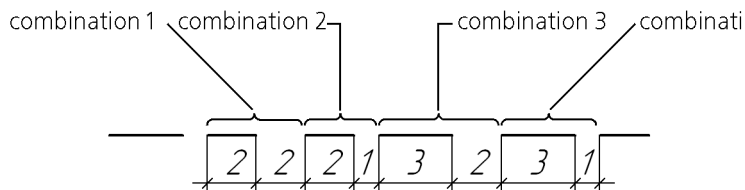

Fig. 8.9. Dash-and-gap combinations in dashed lines of Thermoplast hatch
Groups 3–6 contain dashed lines. All of them are formed of the same dash-and-gap combinations. These combinations and dash-and-line lengths are shown in Fig. 8.9.
- 9.7. The line consists of dash-and-gap combinations (see Fig. 8.9 on p. 100). The **Dash-Gap** list contains by default one combination, the dash-and-gap lengths in which are the same and equal to 1 mm. Enter the value 2 in the dash length field and the gap length field. This change will be sent to the **Dash-Gap** list and also be displayed in a preview window.
- 9.8. Click the **Add** button. The second dash-and-gap combination will appear in the list. Edit it according to Fig. 8.9.